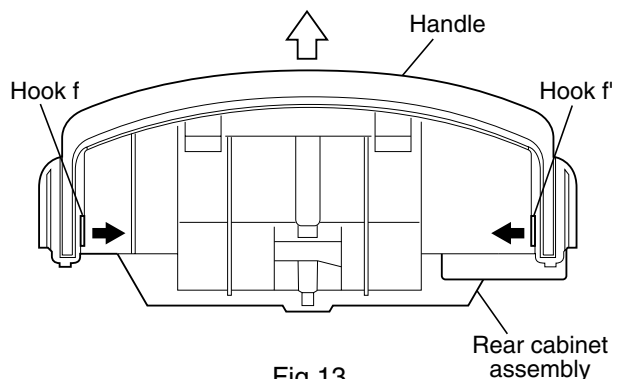

Fig.13
■ Removing the handle (See Fig.13)